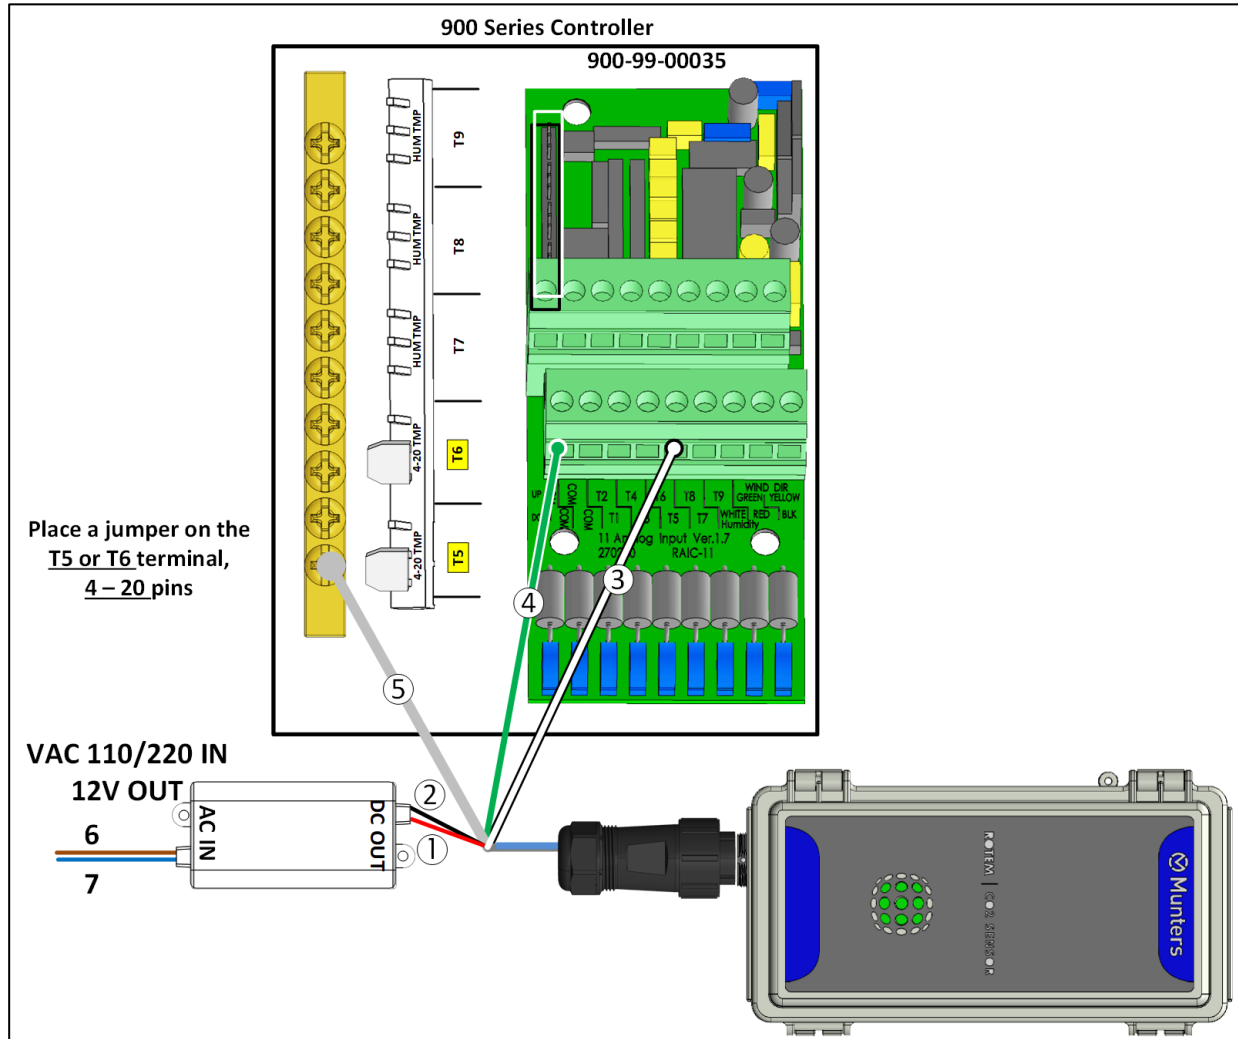

Figure 12: Platinum Wiring
1. Attach the other end of the sensor cable to the power supply and Platinum Analog Input Card as indicated in Figure 12.
Readings are off the scale, even when fresh air is present.	Verify that there is a jumper on the Platinum Analog card, placed on T5 or T6, set for 4 – 20 mA (refer to Figure 12).